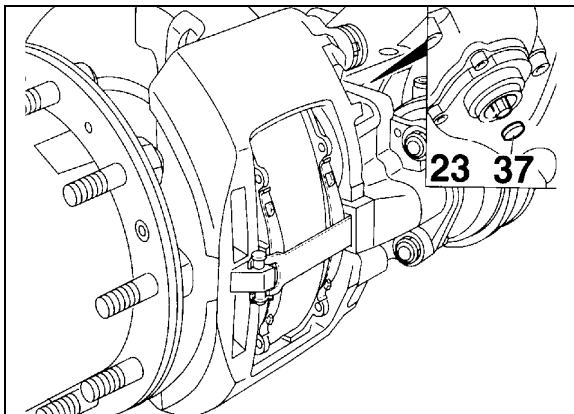

FIGURE 26: ADJUSTER PINION 12120
- a) Remove cap (37, Fig. 26).
- b) Using a box wrench (8 mm), turn the adjuster pinion (23, Fig. 26) counterclockwise about 2-3 clicks to increase running clearance. By operating the braking system about 5-10 times (30 PSI or 2 bar), the wrench should turn clockwise in small increments if the adjuster is functioning correctly (Figs. 26 and 27).